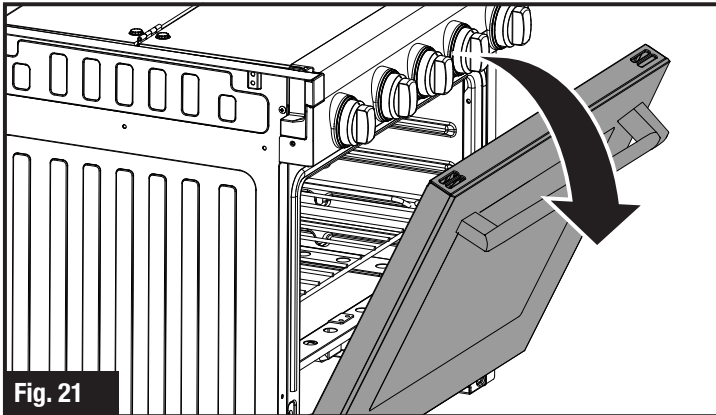

Fig. 21
2. Open the door all the way. (Fig. 21)